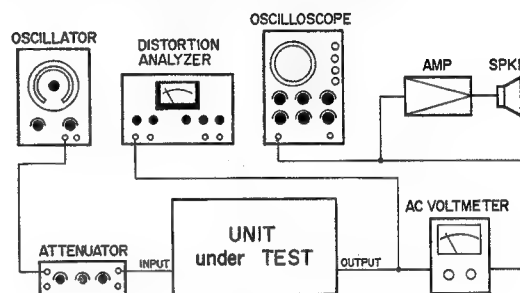

Fig. 7-4
- 1) Connect the measuring instruments as shown in Fig. 7-4.